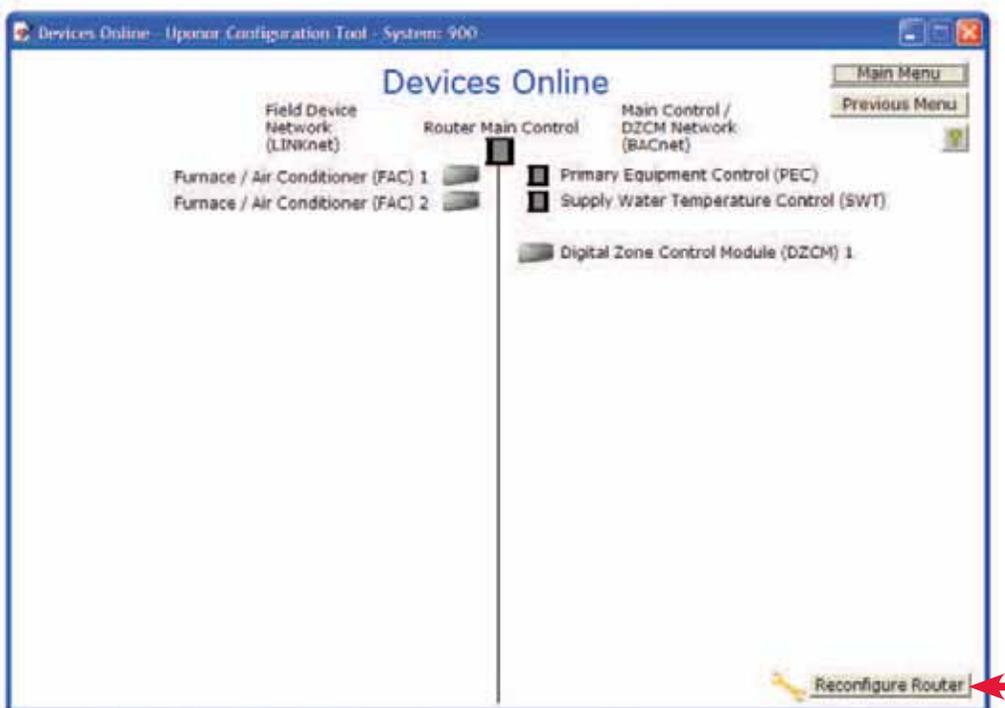

Figure 4.4-4: Reconfigure Router Button
1. Click the **Reconfigure Router** button shown in **Figure 4.4-4**. An hourglass will appear.